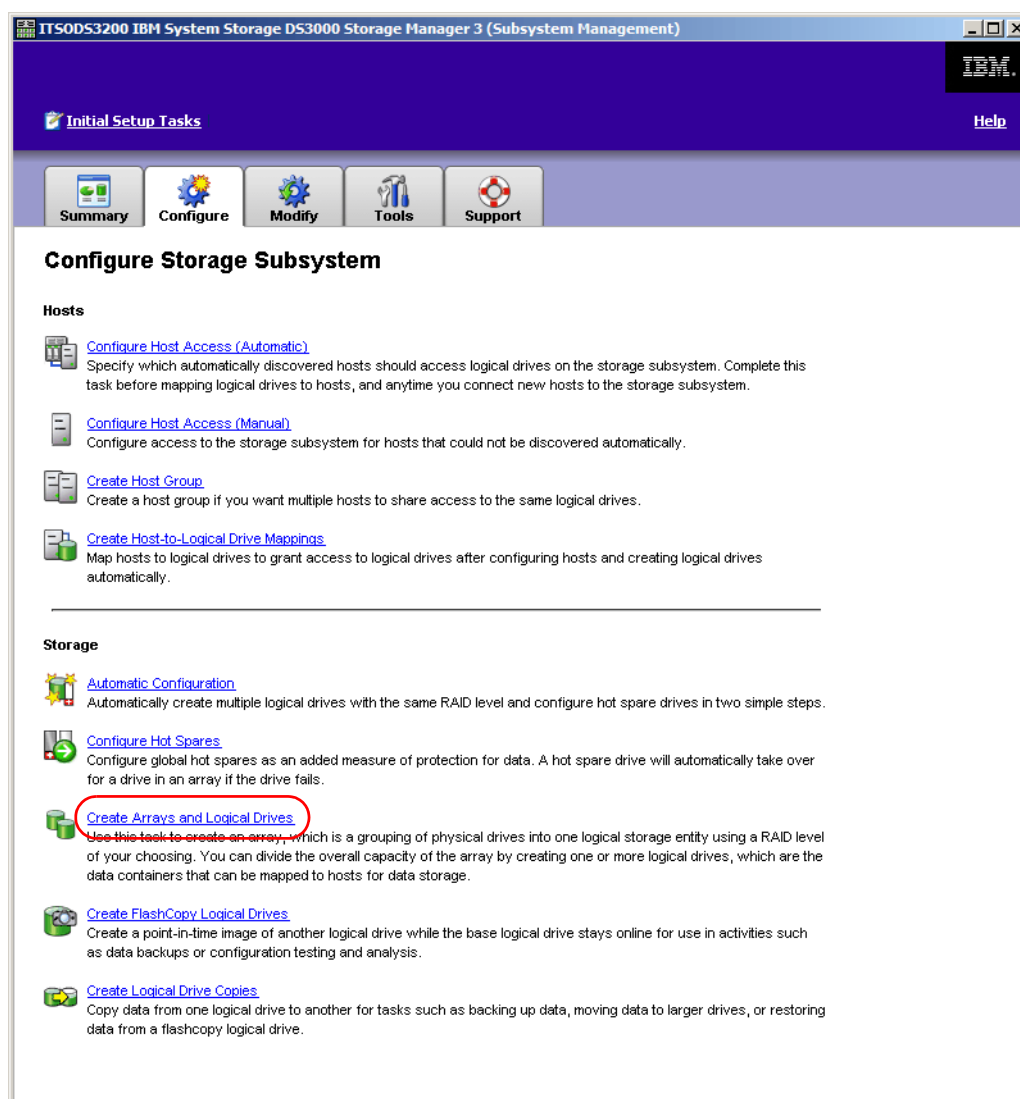

Figure 20-16 DS3200 Subsystem Management Window - Configure
1. In the DS3200 Subsystem Management window, click the **Configure** tab, as shown in Figure 20-16.